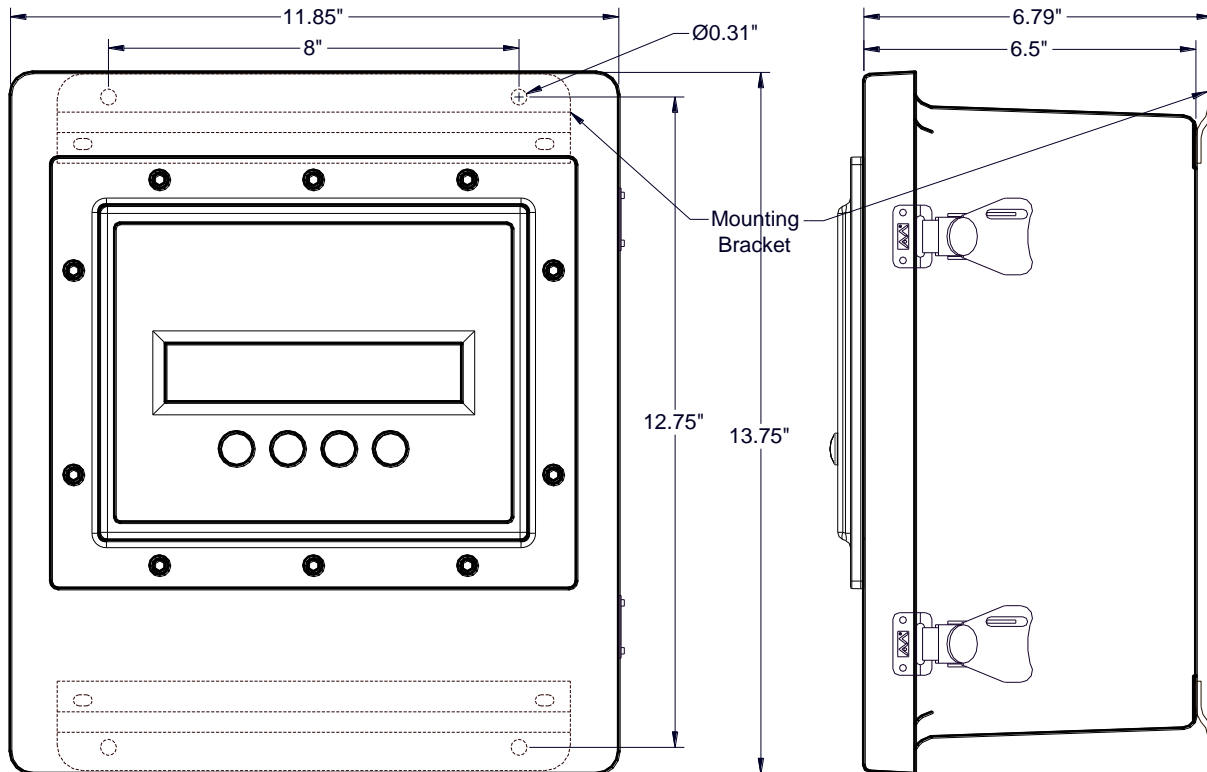
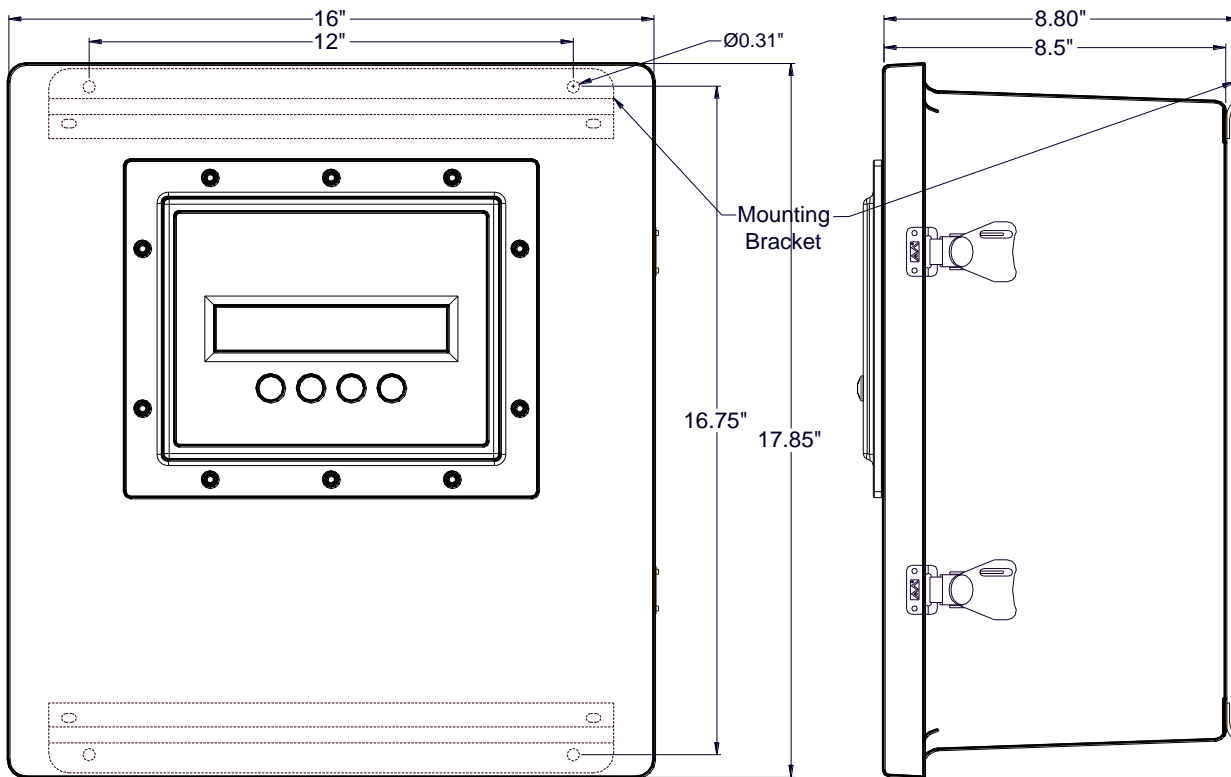

Figure 6 MX40-08-N4X Controller Mounting and Dimensional View
Figure 7 MX40-32-N4X Controller Mounting and Dimensional View
1. Securely mount the enclosure in accordance with the dimensions provided in Figure 6 (MX40-08-N4X) or Figure 7 (MX40-32-N4X).